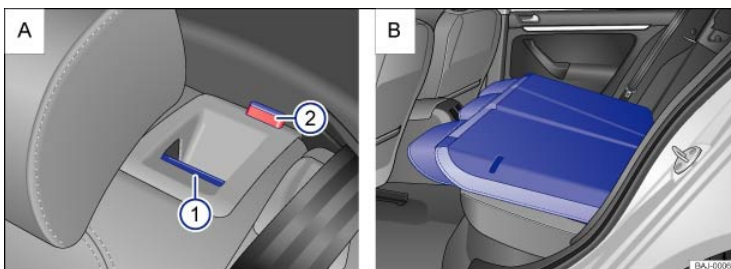

Fig. 99 : Rear seat bench: Release button ① and red mark on the indicator ② : Seat backrest folded forward.
- Pull the release button ⇒ *Fig. 99①* forward while folding the rear seat backrest forward.
- The rear seat backrest is unlocked if the red mark ⇒ *Fig. 99②* can be seen on the indicator.
- The red mark on the indicator ⇒ Fig. 99② should no longer be visible.
- If the red mark on the indicator ⇒ Fig. 99② is visible, this indicates that the backrest is not latched into place. Always check to make sure that the red mark is not visible whenever the rear seat backrest is in the upright position.